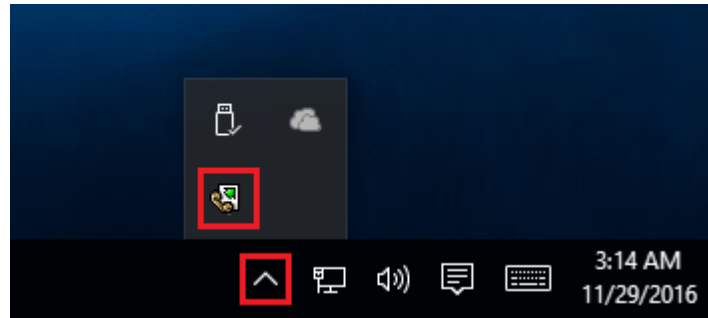

Fig. 6.1.2 Systray - panel near clock
- **Start in minimized state** - at start Advanced Serial Data Logger will automatically put its icon on panel near clock (SysTray fig. 6.1.2);